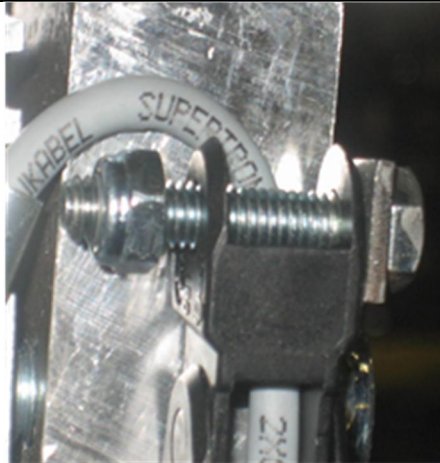

Figure 10
17. Connection on black energy chain to the bracket. Keep the nylock nut loose from the chain to allow the chain to move and flex freely during travel. (See Figure 10).